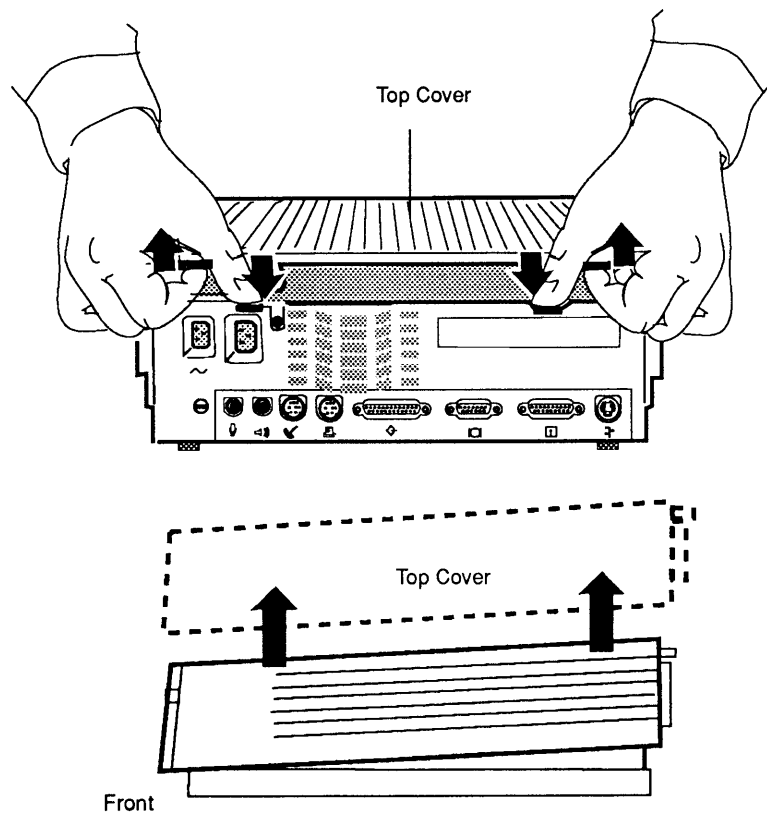

Figure 2-1 Top Cover
2. Push up on the tabs on the back of the cover (**Figure 2-1**) and lift up the lid. The cover may make a loud snap.